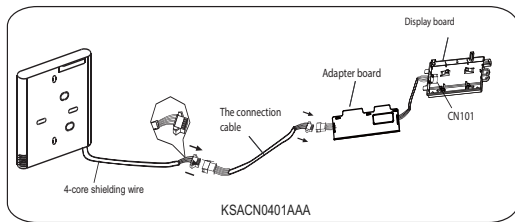

Fig. 3 – Installation of KSACN0401AAA
2. Connect the female joint of the wires group from the adapter board with the male joint of the connective wires group. Next, connect the other side of the adapter board with the display board (see Fig. 3).
3. Connect the other side of the connective wires group with the male joint of the wires group leads from the wire controller (see Fig. 3).